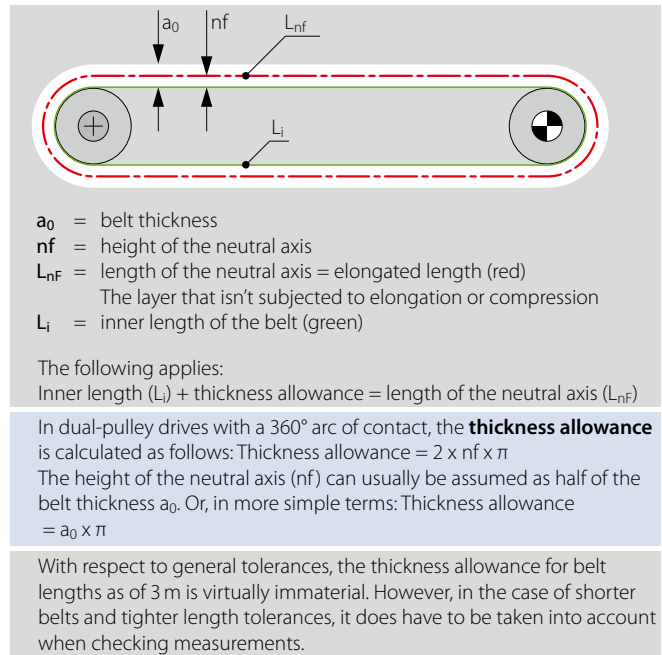

Fig. 1
All lengths of spliced conveyor belts on orders and spare parts cards refer to what's known as the **inside length (L_i)** when the belt has not been tensioned. This dimension is not the same as the length of the neutral axis. Only L_i is used as the length for orders. (See fig. 1 for an illustration of these two figures)
* Thickness allowance see explanation of fig. 1